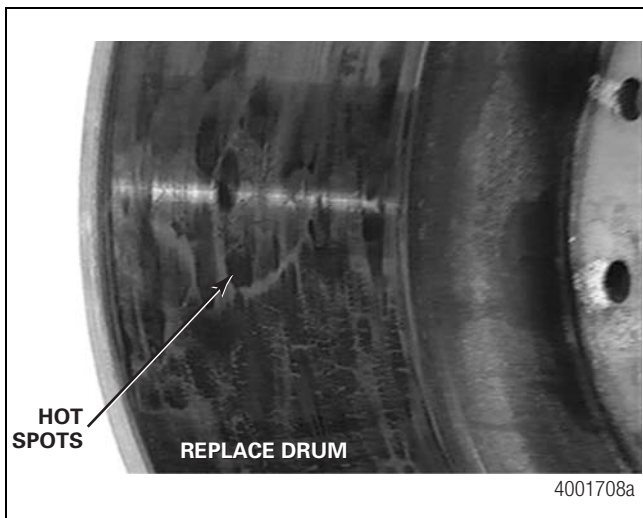

Figure 6.8
3. In three equally distant places. Figure 6.8.